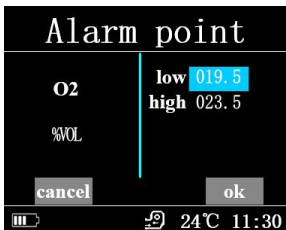

Figure 40
- i. For combustible gas and oxygen, there are low and high alarm point can be set, as shown in Figure 40.